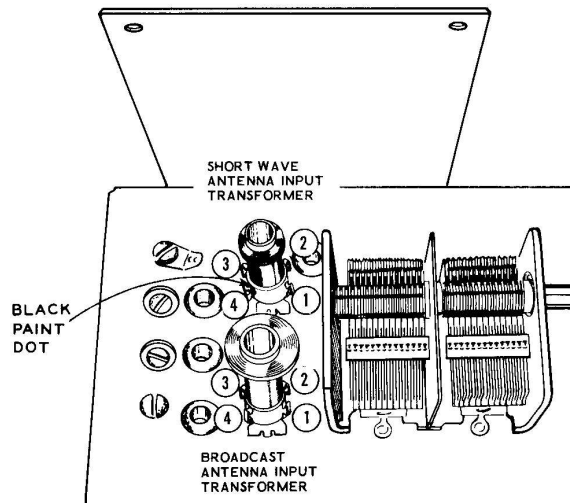

Figure 10M
- (P) Connect a 2" length of hookup wire to lug 4 of side D of the band switch (S).
- (P) Connect a 2" length of hookup wire to lug 3 of side D of the band switch (S).
- (P) Connect a 1-1/2" length of hookup wire to lug 2 of side D of the band switch (S).
- (*) Mount the short wave antenna input transformer (#40-300) in position as shown in Figure 10M. Note that there is a black dot on the coil to identify lug 4.